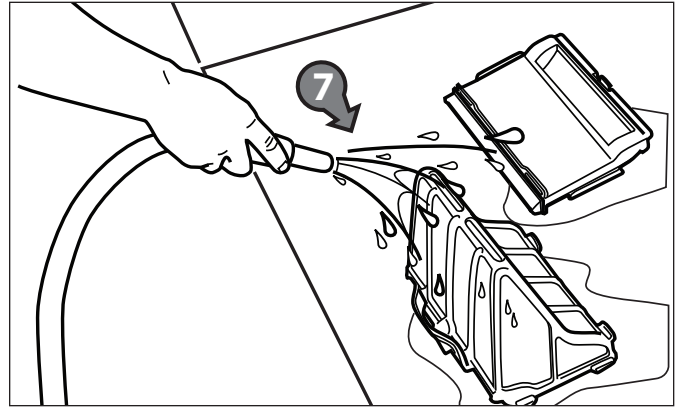

Figure 27. Wash Filter Canister
- Empty all debris from the filter canister, then rinse the canister, the filter support, and the cleaner under water or using a hose. Refer to Figure 27.